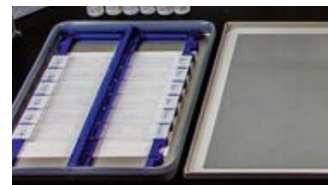

Figure 18: Hybridization Tray
- Place the slide horizontally into the hybridization tray (Figure 18).